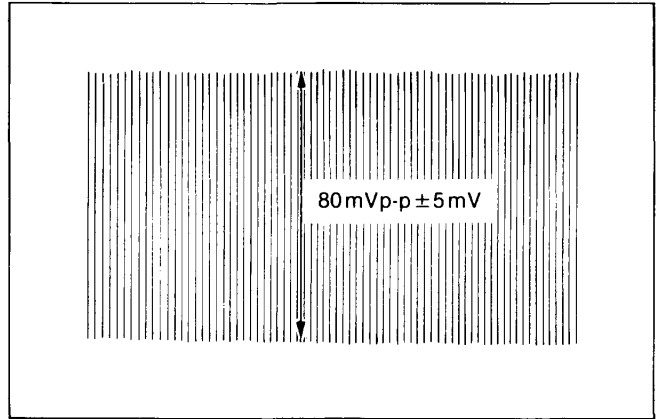

Figure E51
5. Adjust VR4706 for 80 +/-5mVp-p as shown in Figure E51.